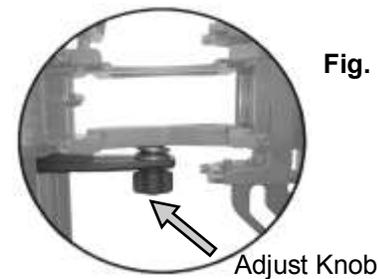

Fig. 12
- Adjust the amount of vertical motion you would like in the seat by loosening the knob that holds the spring in position. Moving it towards the client will reduce the bounce and moving it away from the client toward the rear post will increase the bounce. Once this adjustment is done make sure that you tighten the knob to hold it in place. (fig. 12)